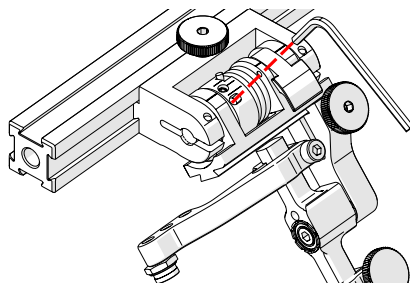

Fig. 66 - Unlatched position
3. Insert the short arm of a 3 mm hex wrench into the 3 mm slot (Fig. 66).